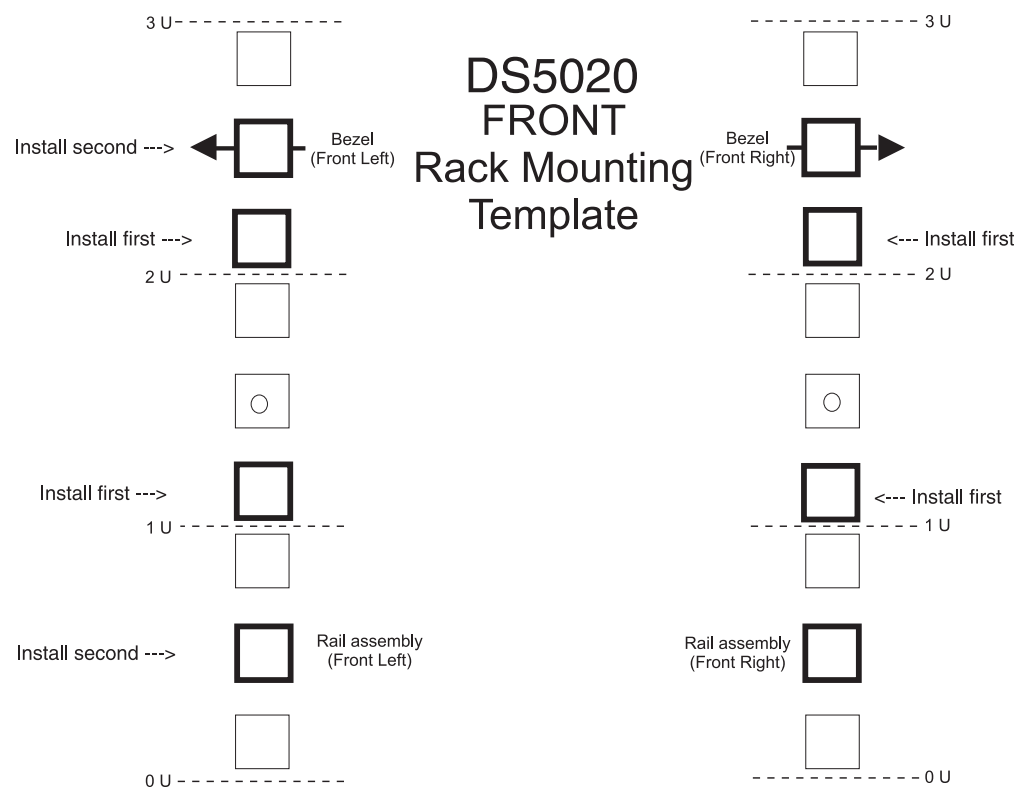
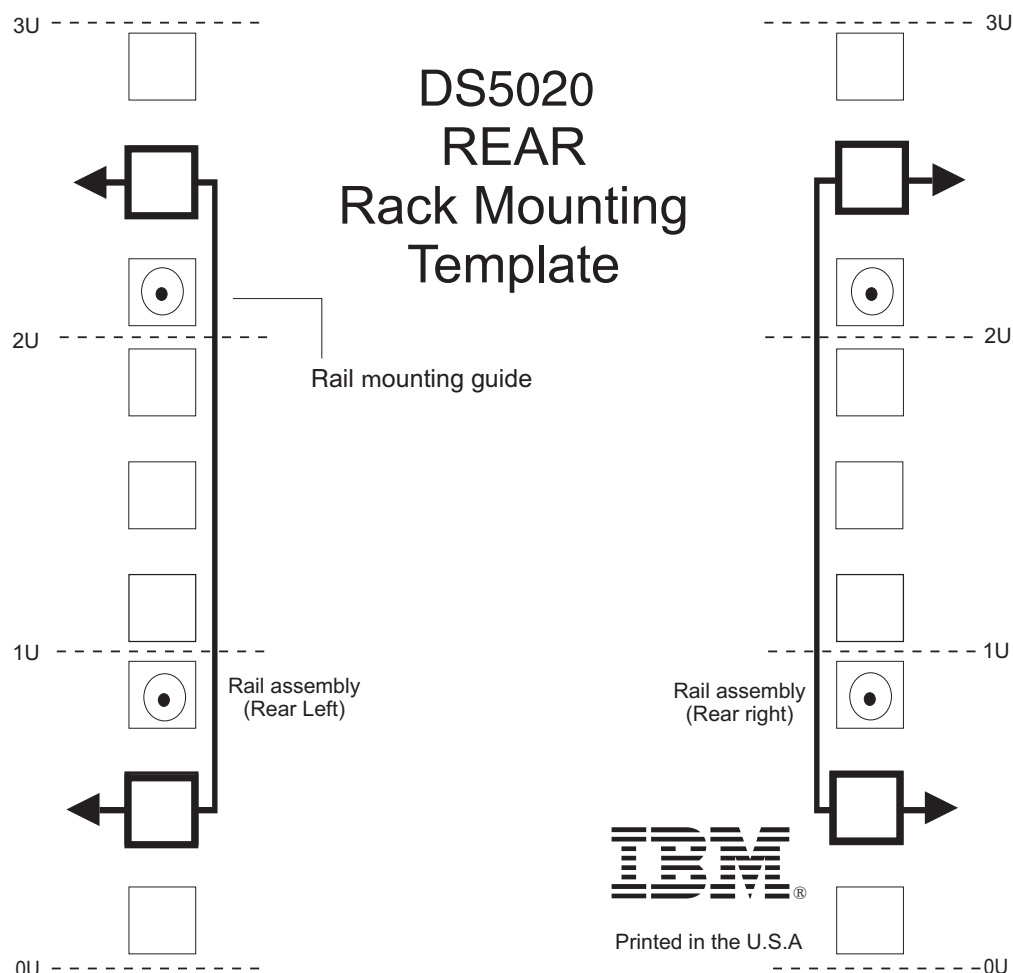

Figure 13. Front rack mounting template
Figure 14. Rear rack mounting template
Use the following templates (Figure 13 and Figure 14 on page 36) to identify the proper locations for inserting M5 screws when mounting the support rails and DS5020 storage subsystem to a rack cabinet. The locations for the M5 screws are highlighted in the templates.
Important: Duplicate copies of the rack mounting templates are provided in Appendix B, “Rack mounting templates,” on page 175. If you want to tear out the templates from this document, use the copies in Appendix B, “Rack mounting templates,” on page 175. Use the preceding templates (Figure 13 on page 35 and Figure 14 on page 36) to identify the proper locations for inserting M5 screws when mounting the support rails and DS5020 storage subsystem to a rack cabinet. The locations for the M5 screws are highlighted in the templates.
- The lip on the rail lines up with the bottom of the storage subsystem (the 0U boundary in Figure 14 on page 36).
Note: Be sure to install the screw labeled *install first* in Figure 13 on page 35.